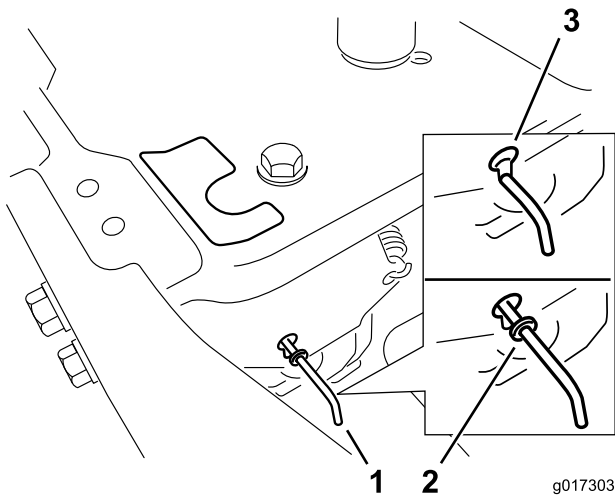

Figure 20
4. Move the bypass levers forward through the key hole and down to lock them in place as shown in Figure 20. Ensure this is done for each lever.
Move the bypass levers rearward through the key hole and down to lock them in place as shown in Figure 20. Ensure this is done for each lever.